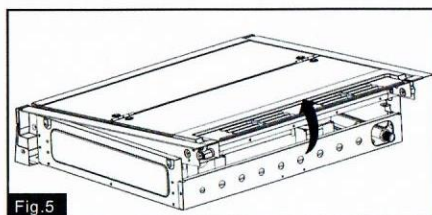
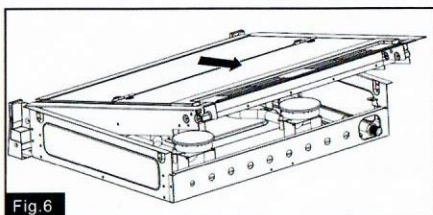

Fig.5
Fig.6
2. Hold the baffle of the top glass cover and pull it upwards to release it from the cooktop. (Figure 5) Push a little and lift up to remove the top glass cover from the cooktop. (Figure 6)